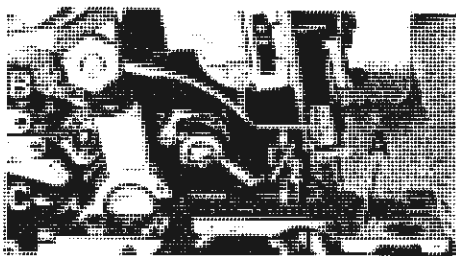

Fig. 3
With throat plate assembled in position, needle should center in the front end of needle slot. When needle is at high position, needle point should be set  $1/2$  inch above throat plate (A, Fig. 3) for styles 39500 FS, FT, FU, GT, and JP;  $15/32$  inch for Styles 39500 GD and GL. To align needle or set the height above the throat plate, move needle driving arm (B, Fig. 3) by loosening clamp screw (C). After needle has been set properly, tighten clamp screw and remove throat plate.